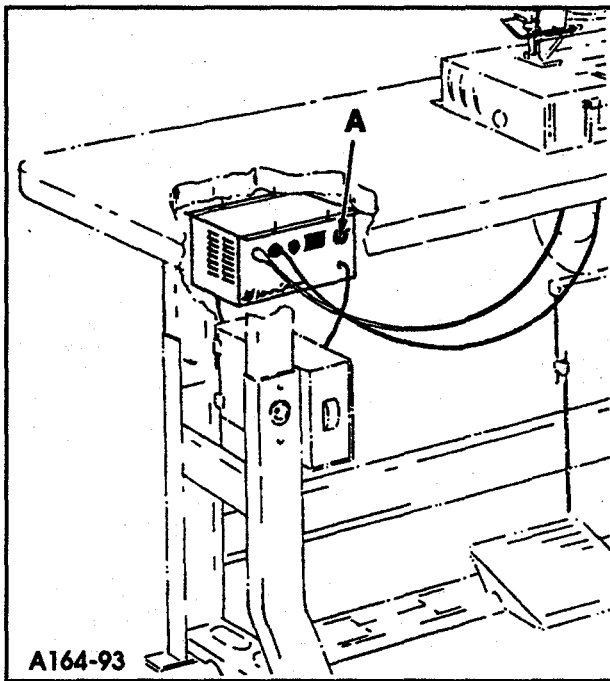
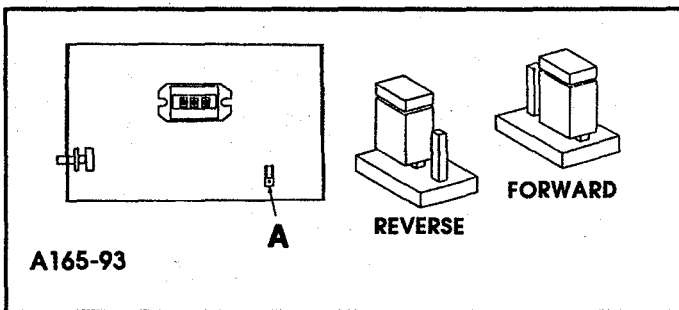

FIG. 24
FIG. 25
If the rotation of the metering device is incorrect turn off power supply (A, Fig. 24) and remove control box front cover. Reverse the jumper JU1 (A, Fig. 25).
**CAUTION:** The control box has a 220V capacity. It is advisable when making any adjustments to the potentiometer that the main power (A, Fig. 24) is turned OFF.